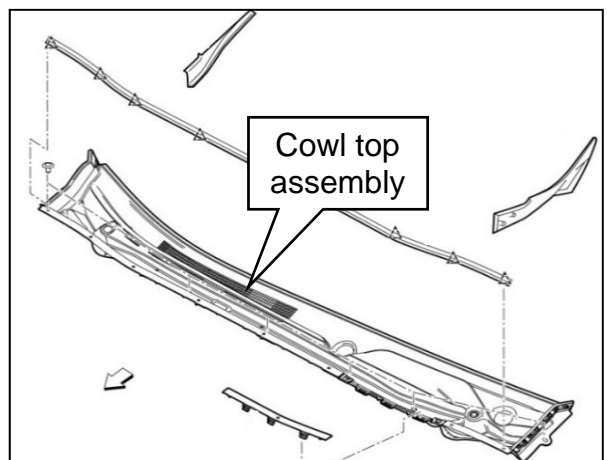

Figure 26
16. Install the cowl top assembly (Figure 26).
- a. Carefully slide the cowl top onto the bottom of the windshield using care to not damage the thirteen (13) positioning clips that are positioned under the windshield edge.
- b. Install the six (6) retaining clips.